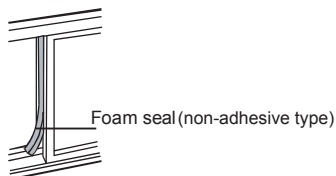

Fig. 15
5. Cut the foam seal (non-adhesive type) to an appropriate length and seal the open gap between the closed side window sash and outer window sash. See Fig. 15.